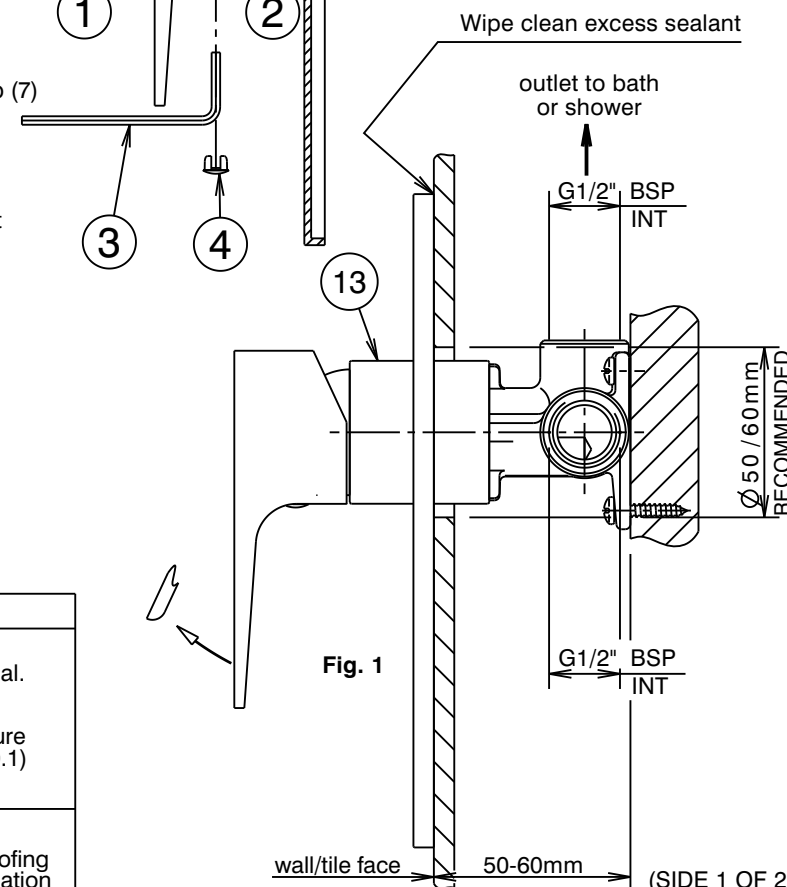

Fig. 1
### Installation (Fig. 1 & 2)
- \* Mixer body (13) must be installed square to wall/tile face, to ensure cover plate (5) sits flush.
- 2) Apply a suitable clear sealant to the back edge of the cover plate (5), leaving an unsealed section at the bottom for drainage. Carefully slide the cover plate (5) onto the mixer body (13), ensuring that the 'O' Ring (6) remains in its groove, then push the cover plate firmly against the wall/tile face. Wipe clean any excess sealant from the chrome surfaces and the wall/tile face (See Fig. 1).
- 3) Fit handle (1) taking care that it is pushed fully down, tighten screw (2) using the 2.5mm allen key (3) then fit plug (4).